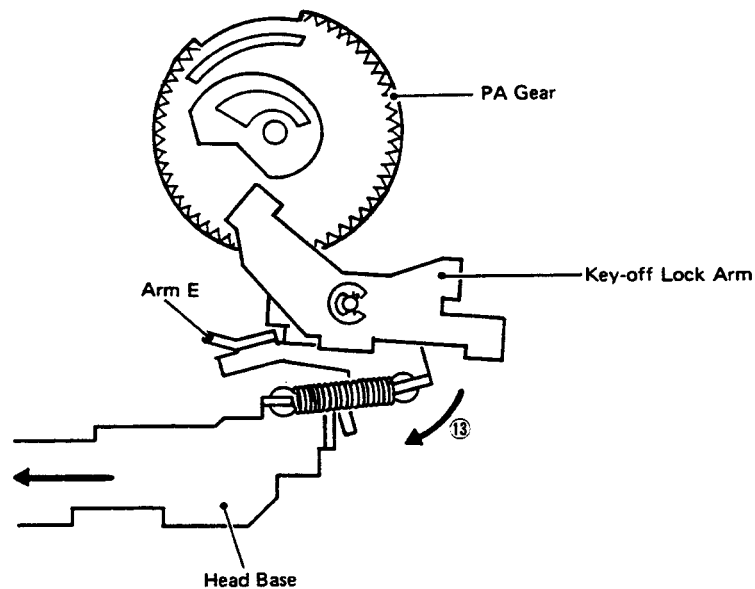

Fig. 26
3. As the head base returns, arm E of Fig. 26 moves along arrow direction ⑬, in turn pushing the key-off lock arm. Thereby, the lock of PA gear gets released, and play state is cancelled.